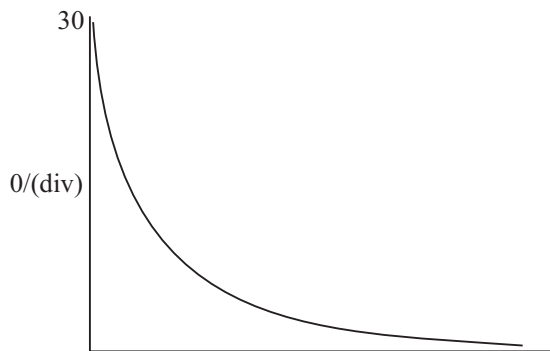

Fig. 25.3: Galvanometer deflection (Q) verses time (t). time/(s)
- (viii) Plot galvanometer deflection θ along y-axis against time t along axis as shown below (Fig. 25.3).